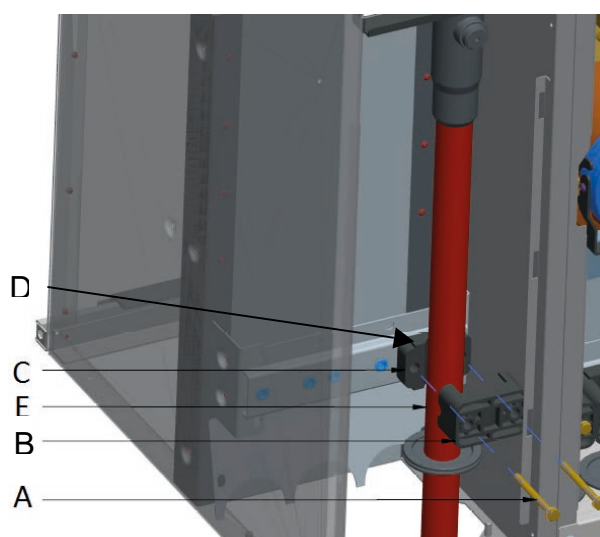

Figure 23: Mounting of the cable fixing clamp.
- Place the first part of the cable fixing clamp (Figure 23 C) between the cable (Figure 23 E) and the cable support (Figure 23 D)
- Place the second part of the cable fixing clamp (Figure 23 B) on the cable and fix it (Figure 23 A) by screwing the 2 hexagonal head screws.